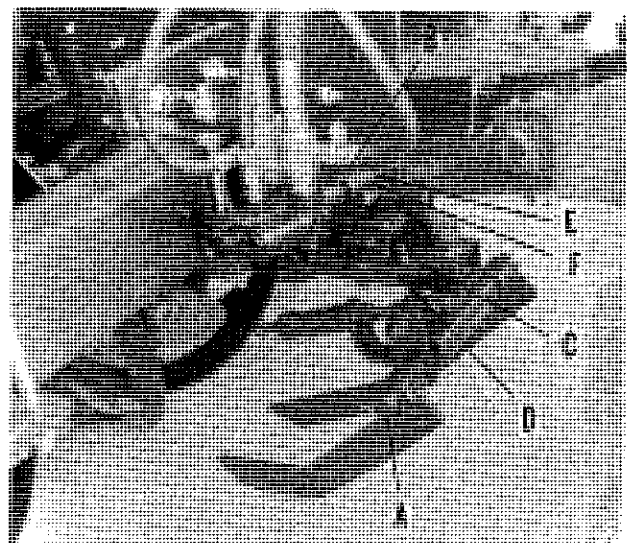

FIGURE 41 - CONTROL VALVE CENTERING
The horizontal shaft (A) in row finder must be parallel with the front of the harvester frame to function accurately. Remove pin (B) and loosen nuts (C) slide plate (D) until shaft is parallel with frame. Tighten nuts (see figure 41).